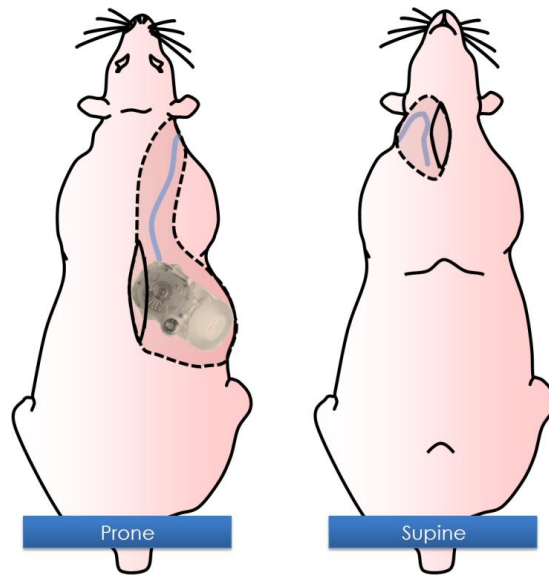

Fig. 2 Dimensional drawing of the pump pocket and tunnel
4. Pocket Making ⋯See Fig.2
5. Tunnel Making ⋯See Fig.2